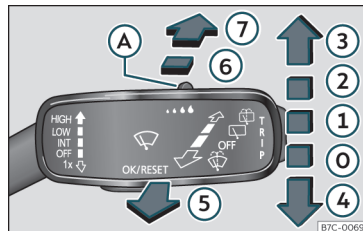

Fig. 41 Operating the windscreen wiper and rear wiper.
- ① **INT** Windscreen wipers interval wipe. Using the control >>> Fig. 41 (A) adjust the interval (vehicles without rain sensor), or the sensitivity of the rain sensor.
- ② **LOW** Slow wipe.
- ③ **HIGH** Continuous wipe.
- ④ **1x** Short wipe. Brief press, short clean. Hold the lever down for more time to increase the wipe frequency.
- ⑤ Automatic wipe. The windscreen washer function is activated by pushing the lever forwards, and simultaneously the windscreen wipers start.
- ⑥ Interval wipe for rear window. The wiper will wipe the window approximately every six seconds.
- ⑦ The rear window wash function is activated by pressing the lever, and the rear wiper starts simultaneously.